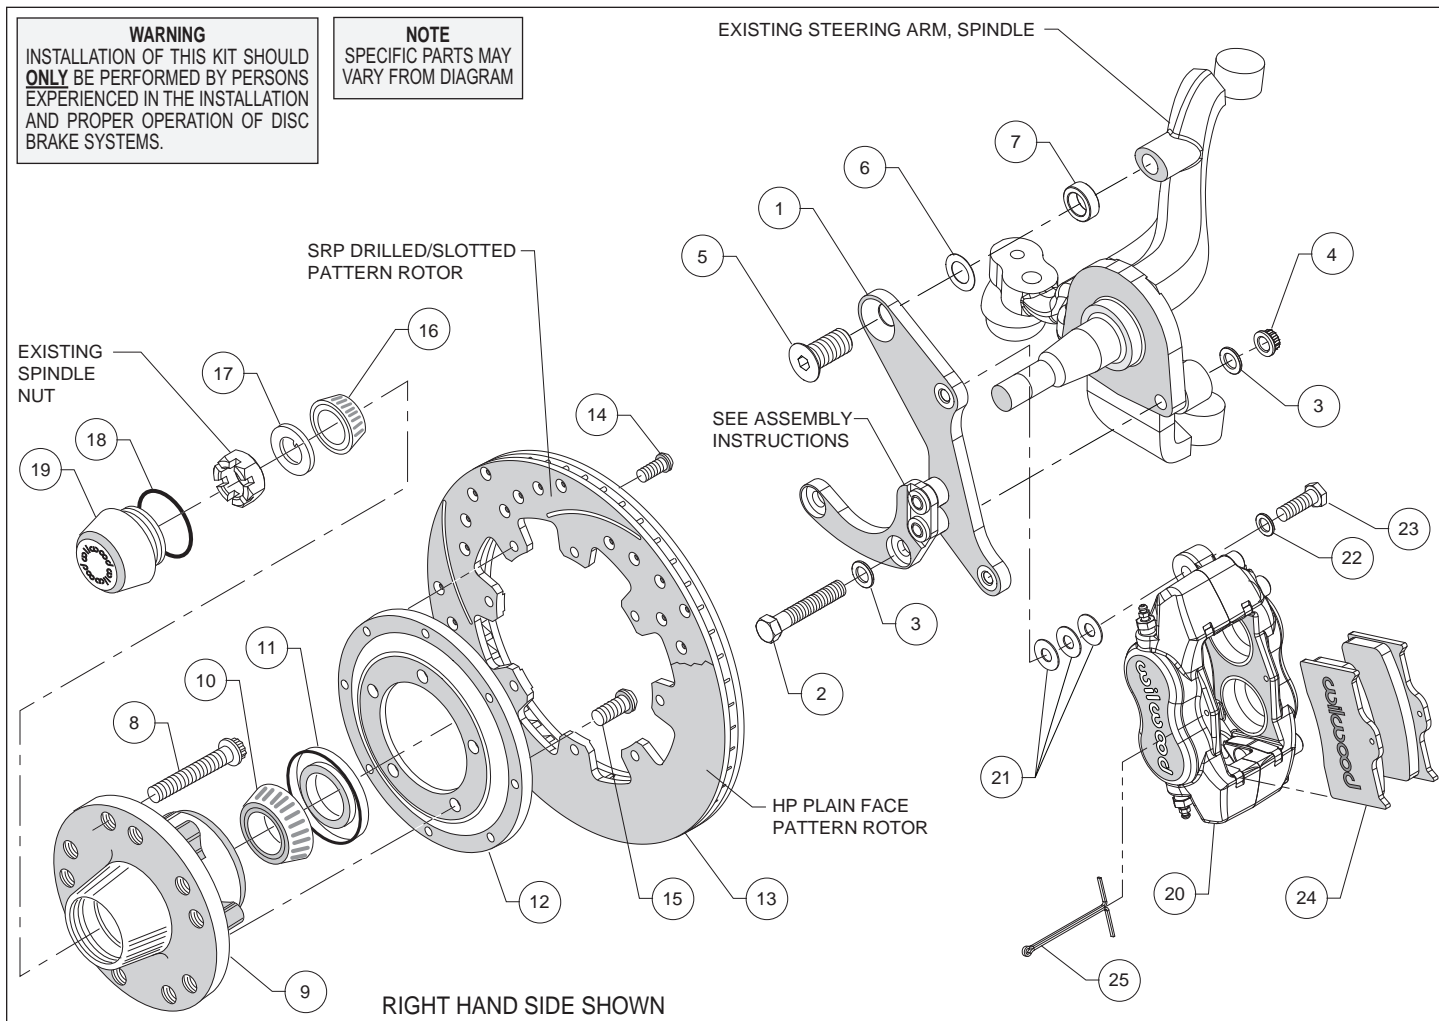
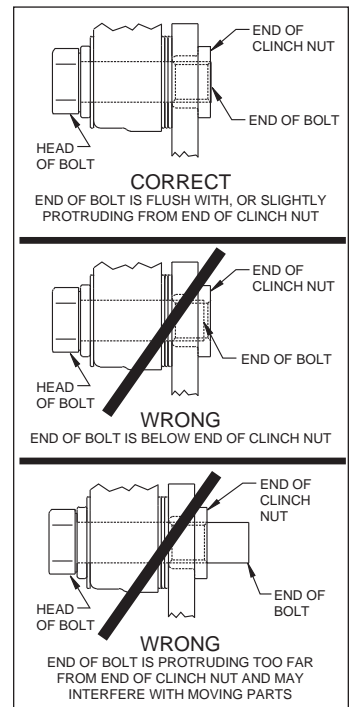

Figure 1. Typical Installation Configuration
Figure 3. Clinch Nut Engagement Diagram
Assembly Instructions (numbers in parenthesis refer to the parts list and Figure 1 on the preceding pages): **CAUTION:** All mounting bolts must fully engage clinch nuts. Be sure to check that all bolts are either flush or protruding through flanged side of clinch nut after shimming, Figure 3.
- The caliper mounting bracket (1) has been assembled at the factory for alignment purposes. Loosen the two bolts that secure the brackets together so that the bolts are hand tight only. This will enable the bracket assembly to be adjusted to accommodate various spindle tolerances during assembly. Align bracket with the two lower holes on the spindle face and attach using bolts (2), and washers (3), and secure using nuts (4), as shown in Figure 1 and Photo 1. Install bolt (5) through top of bracket while placing shim (6) and spacer (7) between bracket and spindle, Figure 1. Initially use one .015" thick shim (6) on the top bolt between the bracket and upright. Temporarily tighten the mounting bolts. Ensure that the flanged heads of the clinch nuts in the bracket are facing outboard, Photo 1. **NOTE:** The bracket must fit squarely against the mounting points on the spindle. Inspect for interference from casting irregularities, machining ridges, burrs, etc.
- Check that the bracket is aligned parallel to the rotor by assembling and installing the hub/rotor per the steps below. If not, adjust by adding or subtracting shims (6) between the spacer (7) and bracket, Figure 1.
- Install the grease seal (11) by pressing into the backside of the hub (9), flush with the end of the hub, Photo 3.
- Orient the rotor (13) and the rotor adapter (12) as shown in Figure 1 and Photo 4. Attach the rotor to the adapter using bolts (14). Using an alternating sequence, apply red *Loctite*® 271 to the threads, and torque to 25 ft-lb.
- Mount the adapter/rotor assembly (12/13) to the hub (9) using bolts (15), as shown in Figure 1 and Photo 5. Using an alternating sequence, apply red *Loctite*® 271 to the threads, and torque to 45 ft-lb.
- Pack the small outer bearing cone (16) with high temperature disc brake bearing grease and install into hub (9). Slide the hub/rotor assembly onto the spindle. Secure using spindle washer (17) and OEM spindle nut, Photo 6. Adjust bearings per OEM specifications. Install saved OEM nut lock (if any) and a new cotter pin (not supplied).
- Screw dust cap (19) into hub (9), Photo 7. Friction created by the o-ring (18) on the dust cap keeps it from unscrewing. **NOTE:** The O.D. of the existing OEM spindle washer may be larger than the I.D. of the dust cap not allowing it to seat against the hub face. Therefore, use the spindle washer (17) supplied with the kit instead of the OEM washer.
- NOTE:** Please reference the caution statement at the beginning of the assembly instructions. Mount the caliper (20) onto the caliper mounting bracket (1) using bolts (23) and washers (22), as shown in Figure 1. Initially place two .035" thick shims (21) on each bolt between the caliper and the bracket, Photo 8. Temporarily tighten the mounting bolts and view the rotor (13) through the top opening of the caliper. The rotor should be centered in the caliper, Photo 9. If not, adjust by adding or subtracting shims between the bracket and the caliper. Always use the same amount of shims on each of the two mounting bolts. **NOTE:** The end of each bolt must be flush with or slightly protruding from the head of the clinch nut, as shown in Figure 3. If necessary place spare shims between washer (22) and caliper mounting ear to achieve the proper clinch nut engagement. Once the caliper alignment and clinch nut engagement are correct, remove the bolts one at a time, apply red *Loctite*® 271 to bolt threads, and torque to 40 ft-lb.
- Install the disc brake pads (24) into the caliper, with the friction material facing the rotor (13), and secure in place using cotter pin (25), Photo 10.